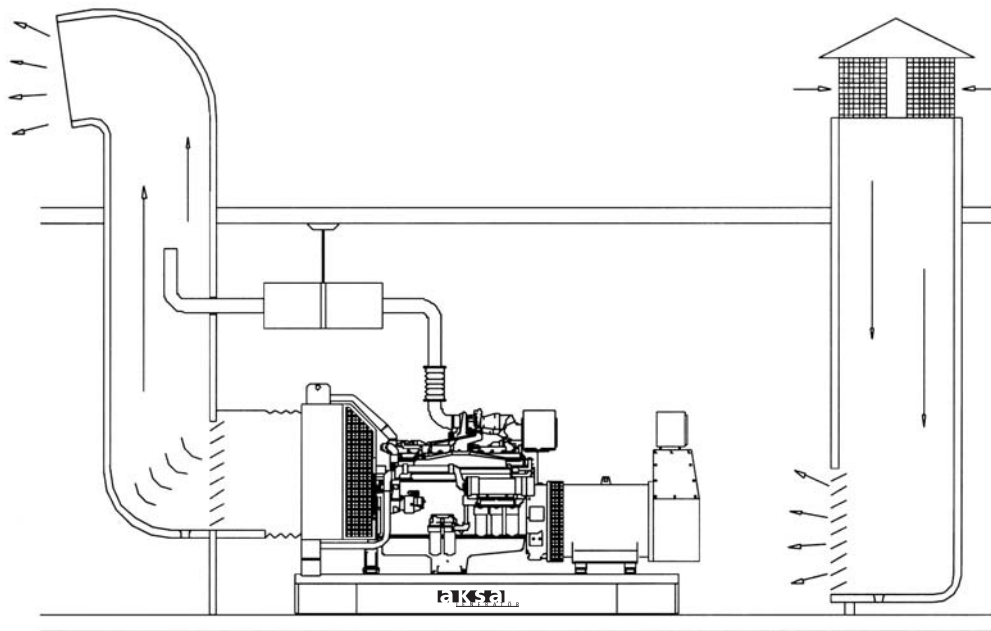

Figure 4.4 Air ventilation
The engine, alternator, and exhaust piping radiate heat which can result in a temperature high enough to adversely affect the performance of the generating set. It is therefore important that adequate ventilation is provided to keep the engine and alternator cool. Proper air flow, as shown in Figure 4.4, requires that the air comes in at the alternator end of the set, passes over the engine, through the radiator and out of the room via a flexible exhaust duct. Without the ducting of the hot air outside the room, the fan will tend to draw that hot air around and back through the radiator, reducing the cooling effectiveness.
- A flexible connection between the exhaust manifold and the piping system should be used to prevent transmission of engine vibration to the piping and the building and to allow for thermal expansion and any slight misalignment of the piping. (See Figure 4.4)